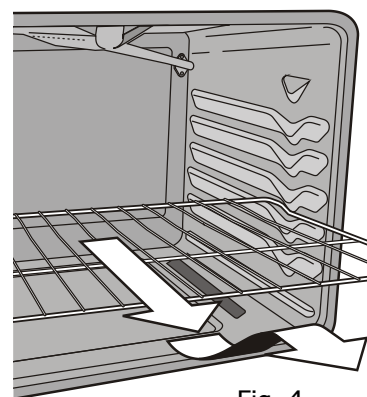

Fig. 4
To remove- Pull the oven rack straight out until it reaches the stop position. Tilt up front of oven rack to slide past the stop position and pull the rack out of the oven cavity (Fig. 4).
5. While holding the connector arm in place, twist the connector arm so the ends of the connector arm point **upwards** (See Figs. 4 & 5). The connector arm should now be locked into position.